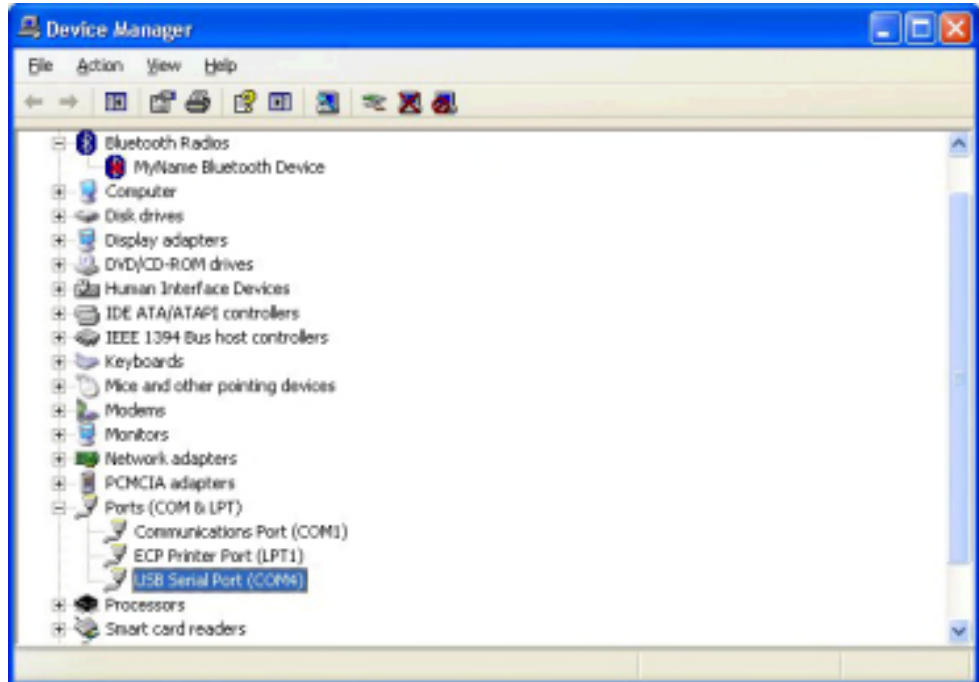

Figure 3-7: COM port device manager
- Double click on **Ports (COM & LPT)** to see the available USB Serial Port as shown in Figure 3-7, below.